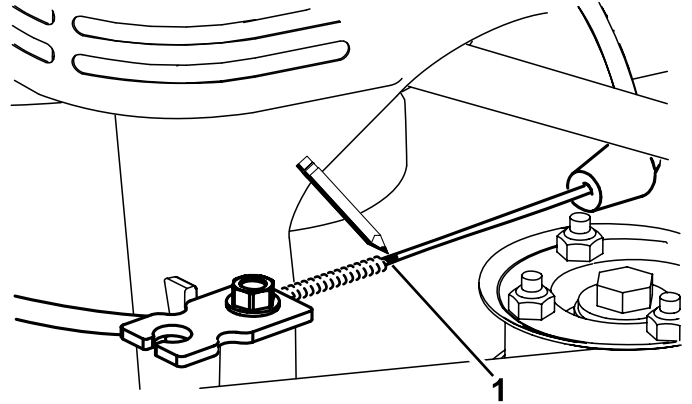
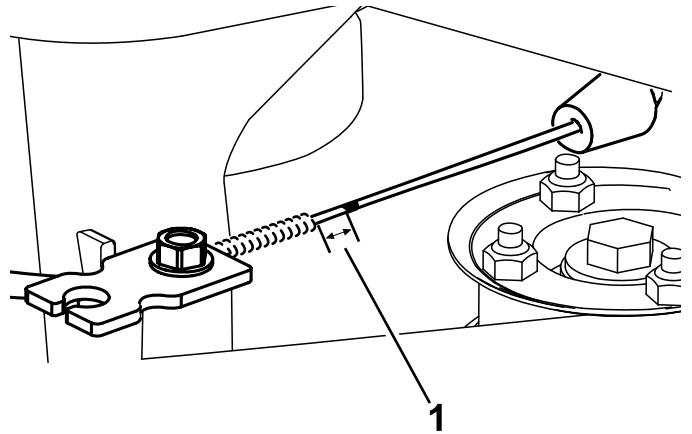

Figure 16
Figure 17
10. Mark the brake cable (Figure 16), then adjust the jacket until there is approximately 3 mm (1/8 inch) of slack (Figure 17).